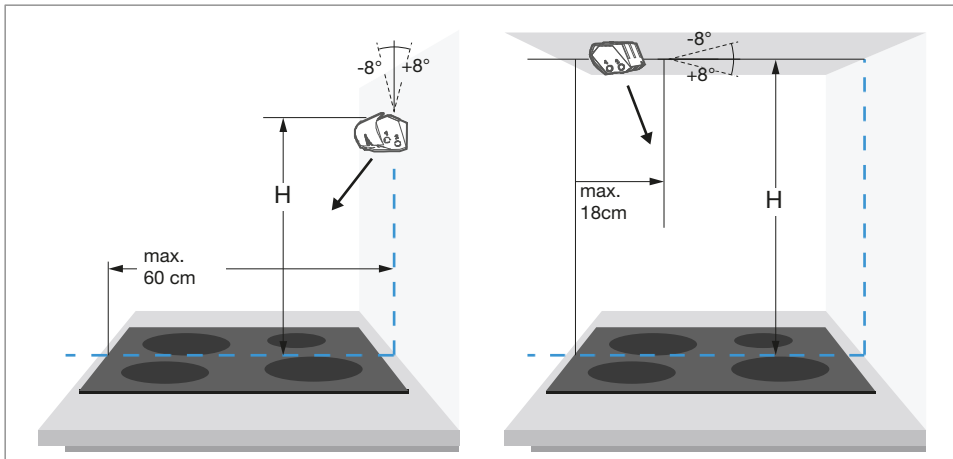

Fig. 18: Wall installation (left); Installation under the extractor hood (right)
The sensor unit can optionally be installed on the wall above the cooker/hob or directly under the extractor hood (Fig. 18). The sensor unit monitors the temperature and use of the cooker/hob and switches off the power supply in the event of an alarm.
- ❸ Fasten the mounting bracket (8) to the sensor unit again.
- ④ Remove any grease and dirt from the mounting surface using the cleaning pad supplied.
- ⑤ Attach the sensor unit using the preinstalled adhesive strip (Fig. 18) (optional: Use supplied fixings).